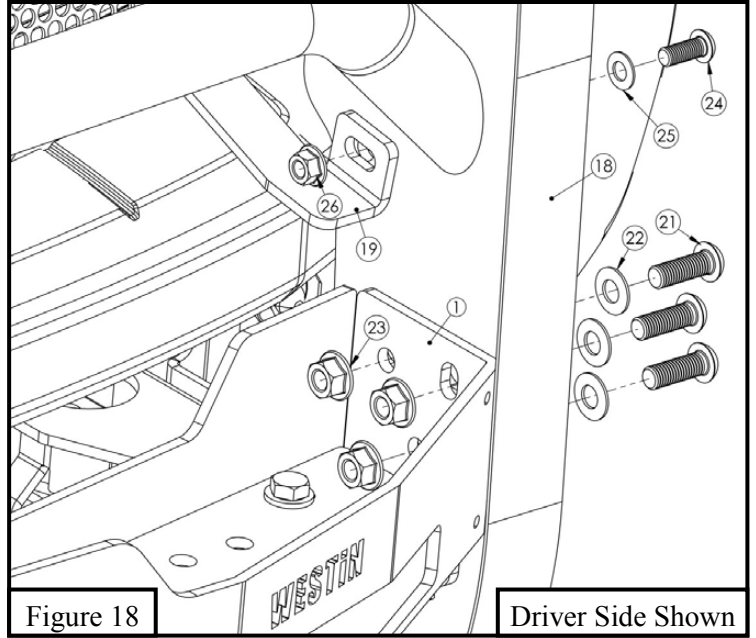

Figure 18
17. Locate (1) HDX/Sportsman Grille Guard (Items 17/18) and with assistance align it with the previously installed brackets and loosely secure using (6) M12 hex socket button head screws, (6) M12 cup washers, (6) M12 serrated flange nuts, (2) M10 hex socket button head screws, (2) M10 cup washers, and (2) M10 serrated flange nuts. **See Figure 18.**